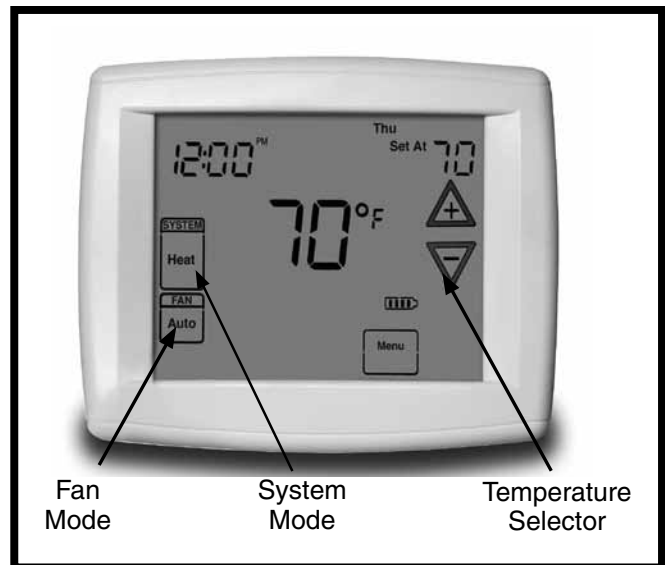

Figure 1. Digital Thermostat
1. Set the thermostat's system mode to COOL or AUTO and change the fan mode to AUTO. See Figure 1
1. Set the thermostat's system mode to HEAT or AUTO and change the fan mode to AUTO. See Figure 1.
1. Set the thermostat system switch to AUTO and the thermostat fan switch to AUTO. See Figure 1
Set the thermostat fan mode to ON (Figure 1). The indoor blower starts immediately, and will run continually until the fan mode is reset to AUTO.
Change the thermostat's system mode to OFF and the fan mode to AUTO. See Figure 1. **NOTE:** The system will not operate, regardless of the temperature selector setting